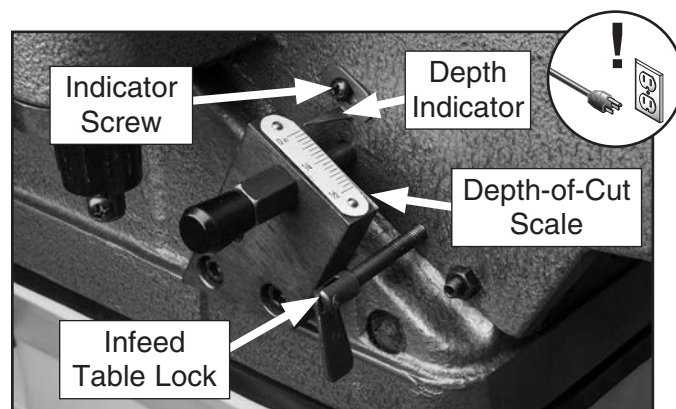

Figure 69. Depth indicator set to "0" on depth-of-cut scale.
2. Loosen infeed table lock (see **Figure 69**).